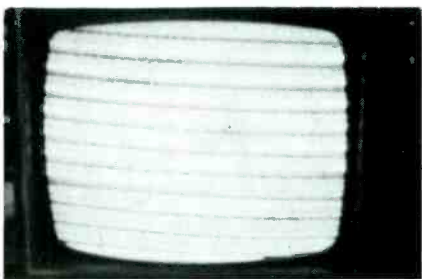

Fig. 7 Many diagonal bars prove the horizontal oscillator is far out of frequency.
- if CR802 is shorted or open, the horizontal also will be far out of lock, with many bars slanting down to the **right** on the raster (see Figure 7);